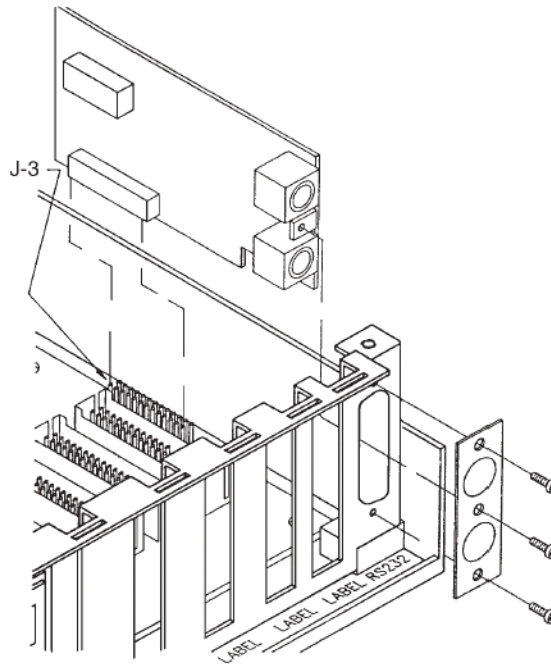

Figure L-3 RS485 Installation
5. Reinstall the connector plate with the two screws saved after removing the cover (Figure L-3). The long screw is used to anchor the board to the plate.